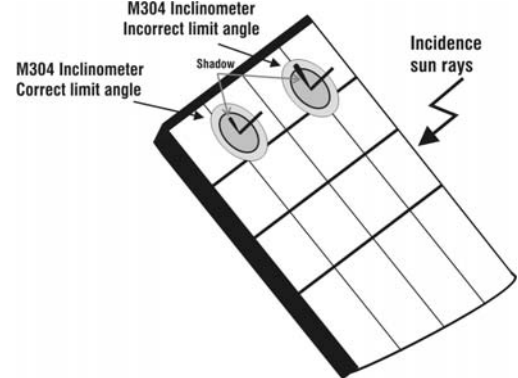

Fig. 7b: Positioning of inclinometer M304
**Verify that the sun shadow falls on the disc within the “limit internal circle” on the disc itself (see Fig. 7b). If this is not the case, the incidence angle between sun rays and the module surface is too high and not complying with the test conditions declared by the module manufacturer. As a consequence the measurements performed by the meter are not ok and all measurements steps shall be repeated at another daytime**